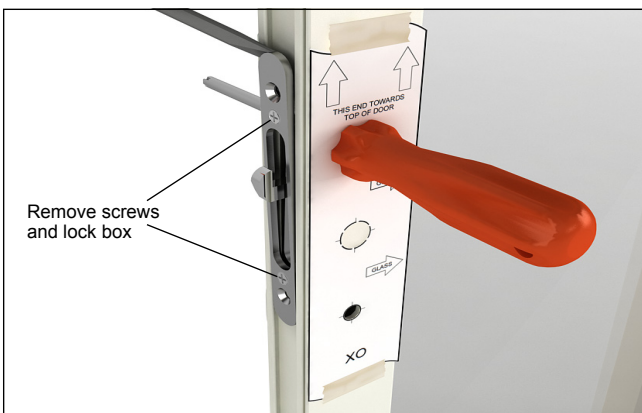

Figure 6
4. Remove the top and bottom Phillips screws from the lock box and pry it loose with another flat screwdriver. See figure 6.